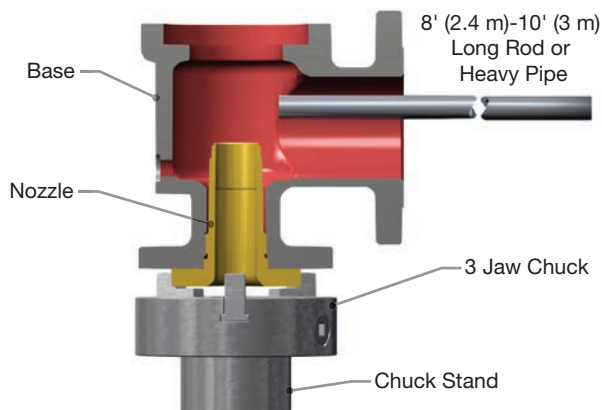

Figure 19: Loosening the Nozzle from the Base
18. Using a three- or four-jaw chuck welded vertically to a stand bolted to a concrete floor, clamp the nozzle (2) into the chuck and break the body loose with a heavy rod or pipe (see Figure 19).
seat is wider than the nozzle seat; thus, the control of seat width is the nozzle seat (see Figure 19).